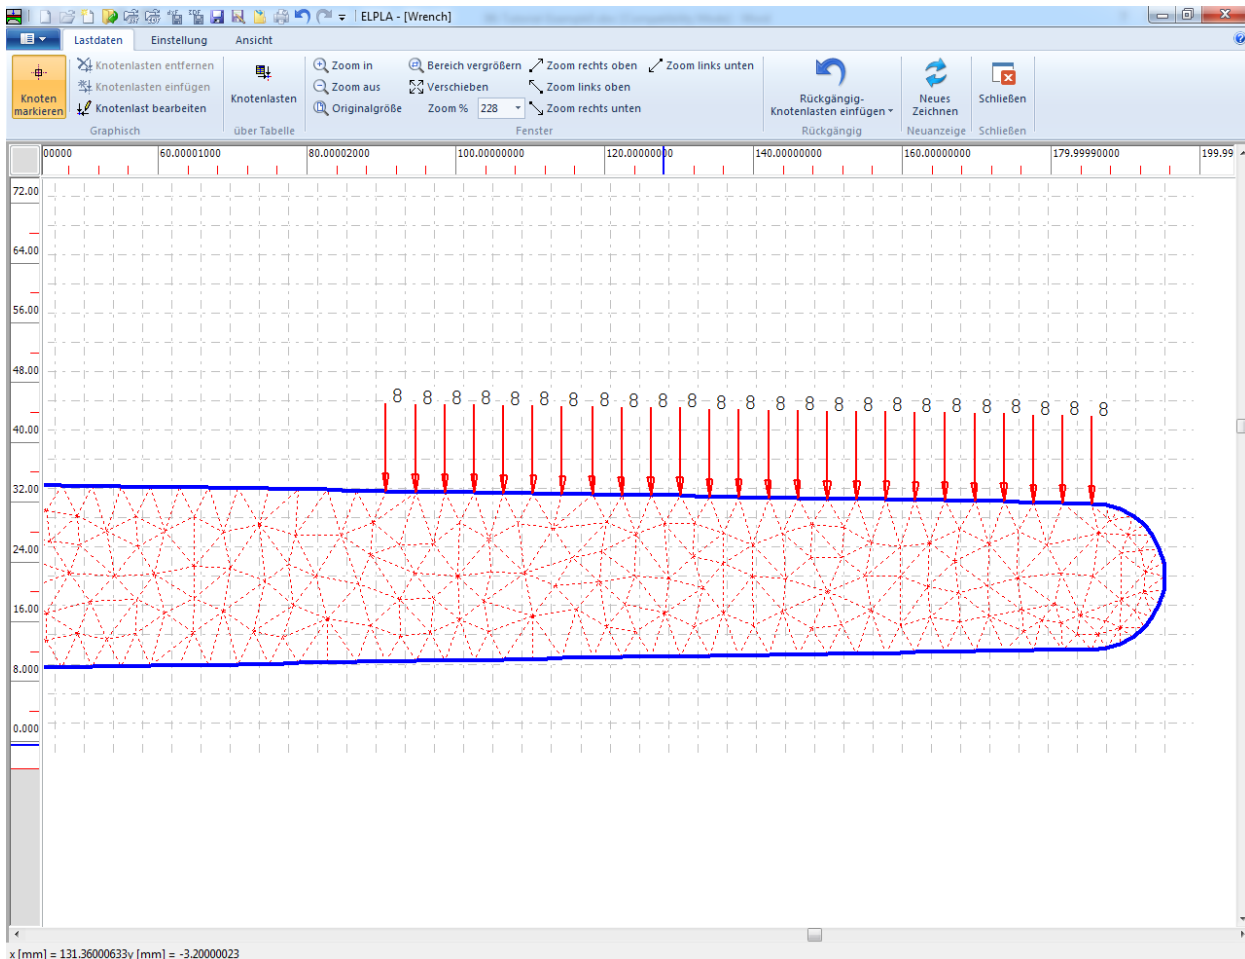

Figure 5.28 Final loads
After you have completed the definition of the concentrated loads, the screen should look like Figure 5.28.
- Choose "Save" command from "File" menu in Figure 5.28 to save the load data
- Choose "Close" command from "File" menu in Figure 5.28 to close the "Loads" Window and return to the main window